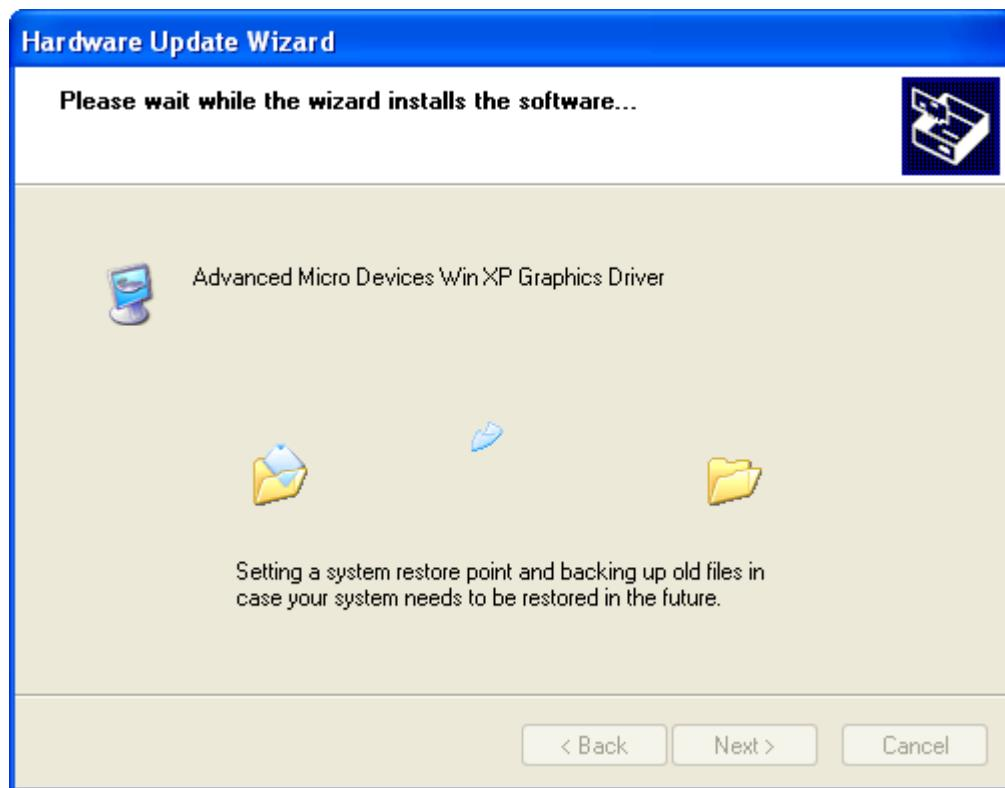

Figure 7-13: VGA Driver Installation
Step 24: The Wizard updates the driver. See **Figure 7-13**.